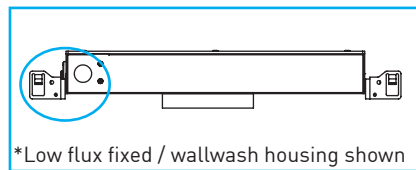

Fig.4
**Note:** For Deep Regress housings, hanger bars extend below housing "Fig.4".